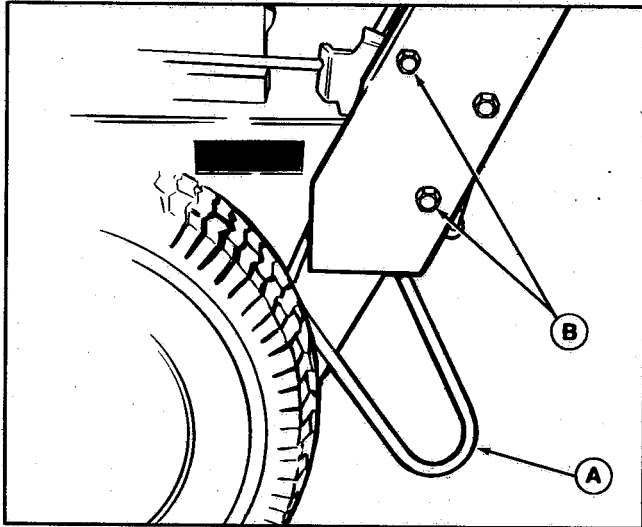

Figure 2
1. To install the left-hand skid bracket (A, figure 2), first remove two handle support capscrews (B), lockwashers and nuts. Use this hardware to attach the skid bracket to the inside of the handle support bracket as shown in figure 2 and 3.